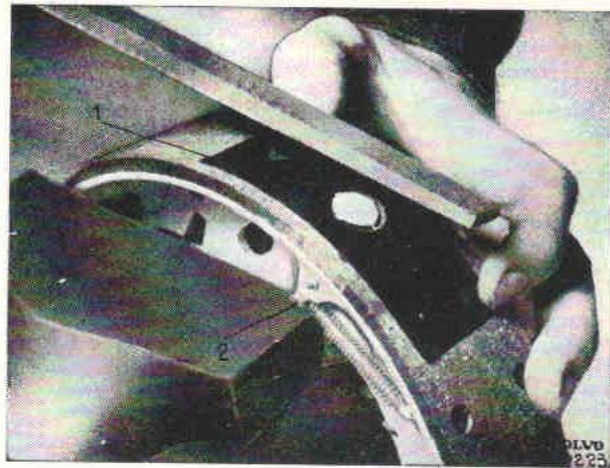

Fig. 21. Adjusting the contact plug.
With the contact plug in the outer position, the brake shoe is secured in a vice. The lip of the lever (2, Fig. 21) should rest against one of the jaws in order to prevent the plug from being pressed in when adjusting, thereby making the adjustment incorrect.
Place the adjusting jig (1) over the contact plug and file this off flush with the jig, see Fig. 21. The plug will then come 0.1 mm (0.04") above the surface of the brake lining.